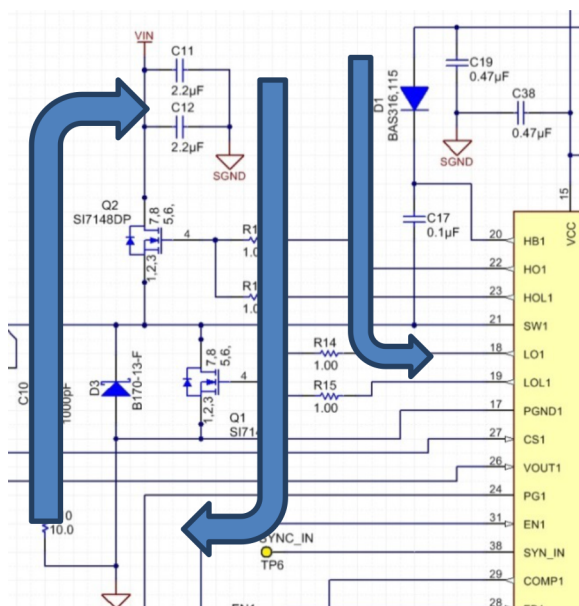
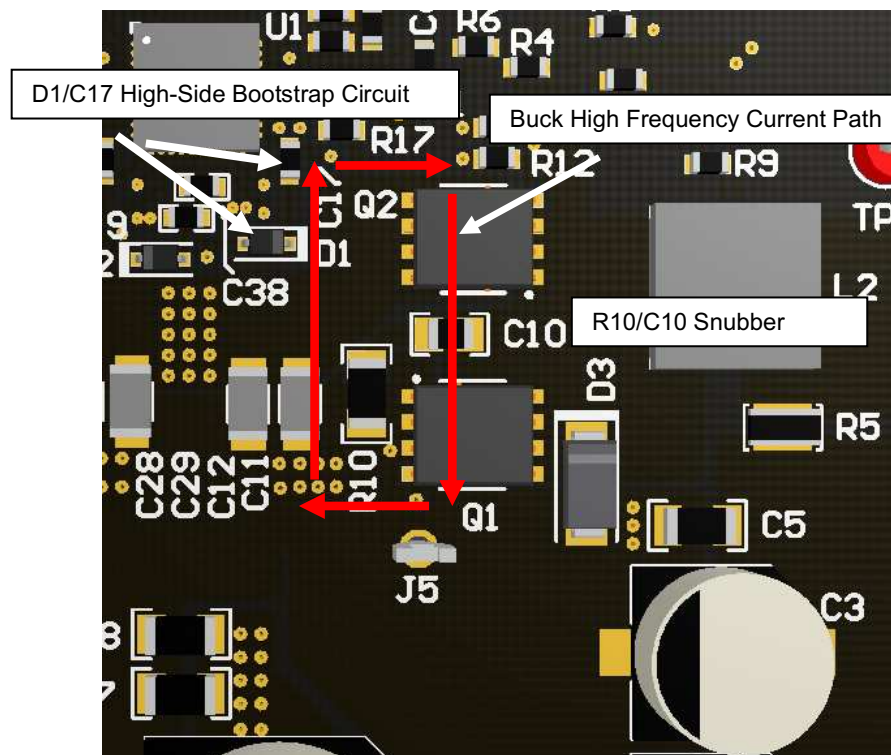

Figure 41. Synchronous Buck Power Flow
Figure 42. Synchronous Buck High Frequency Current Path
- Locate the gate drive components (D1 and C17) together and near the controller IC; refer to Figure 41. Be aware that peak gate drive currents can be as high as 4 A. Average current up to 150 mA can flow from the VCC pin to the V_{CC} capacitor through the bootstrap diode to the bootstrap capacitor. Size the traces accordingly.
- Figure 41 shows the schematic of the high frequency loops of one synchronous buck channel. The current flows through Q1 and Q2, through the power ground plane and back to VIN through the ceramic capacitors C11 and C12. This loop must be as small as possible to minimize EMI. Refer to Figure 42 For the recommended PCB layout.